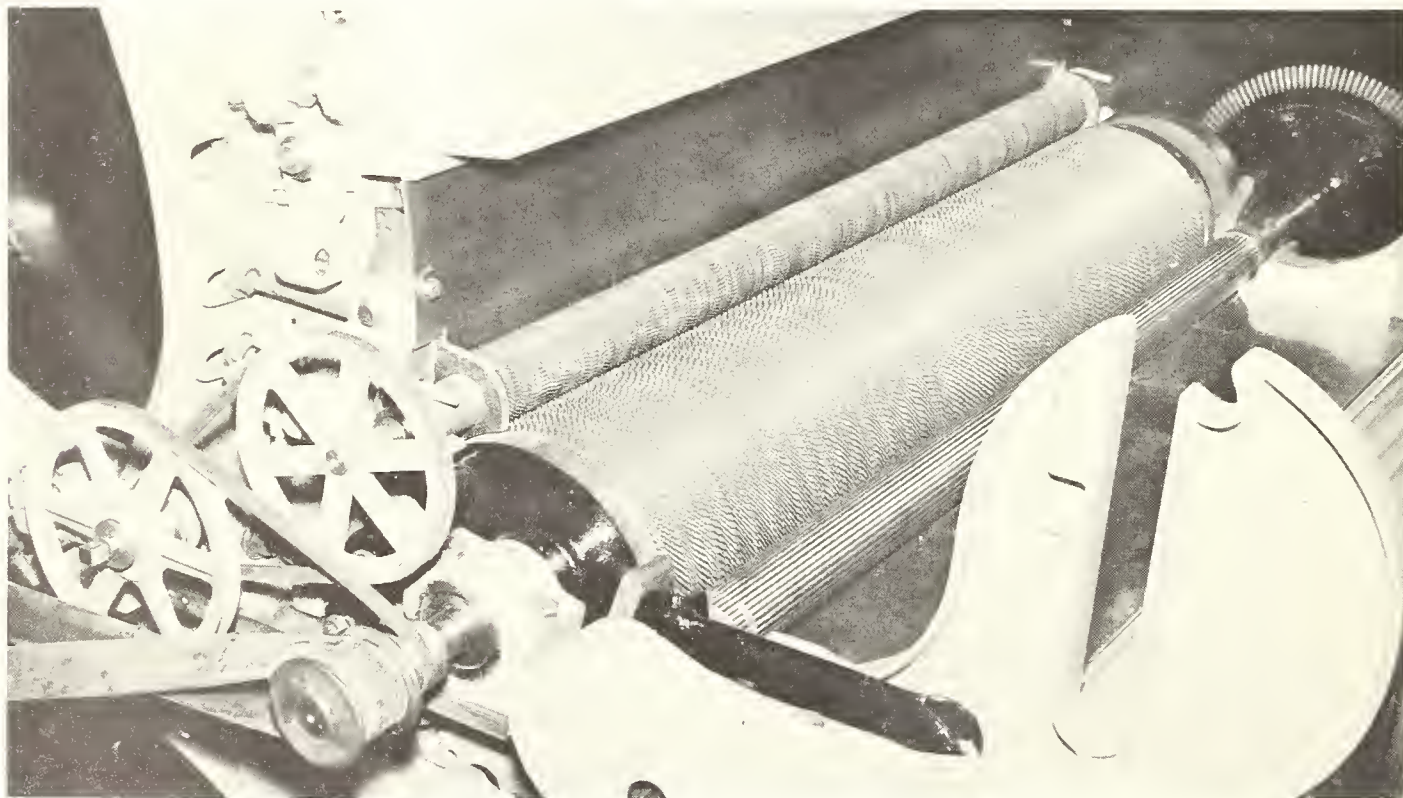
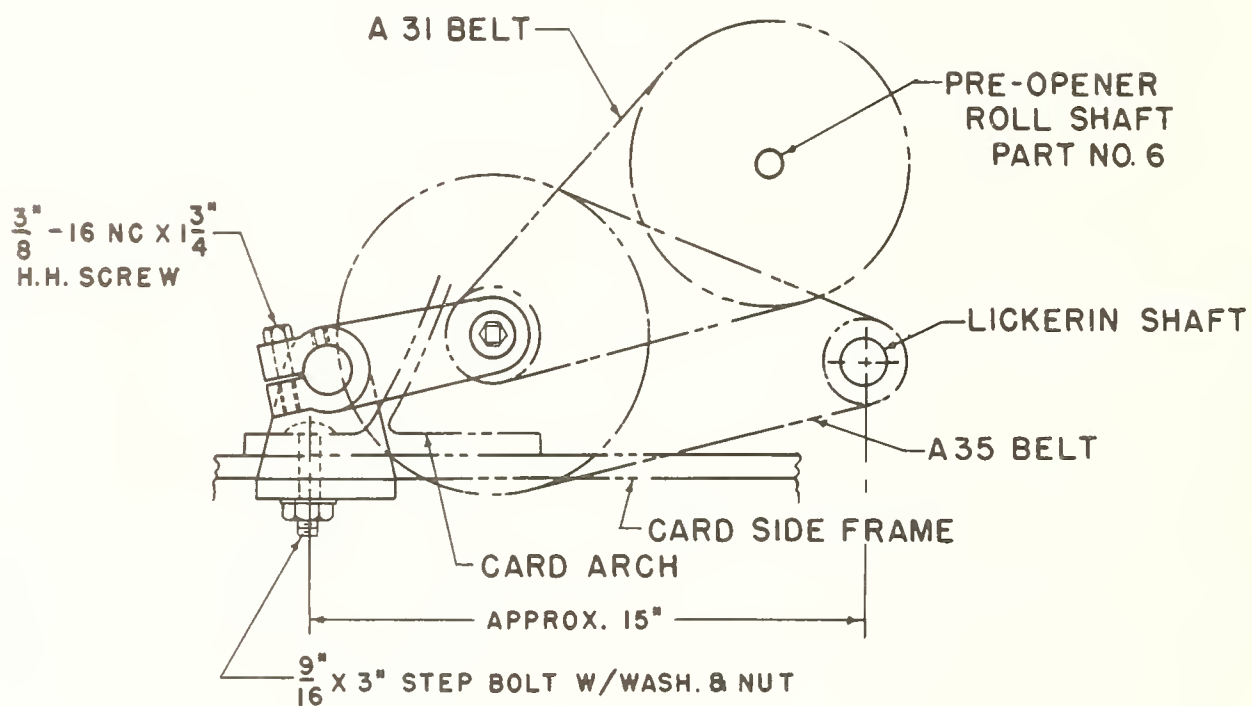
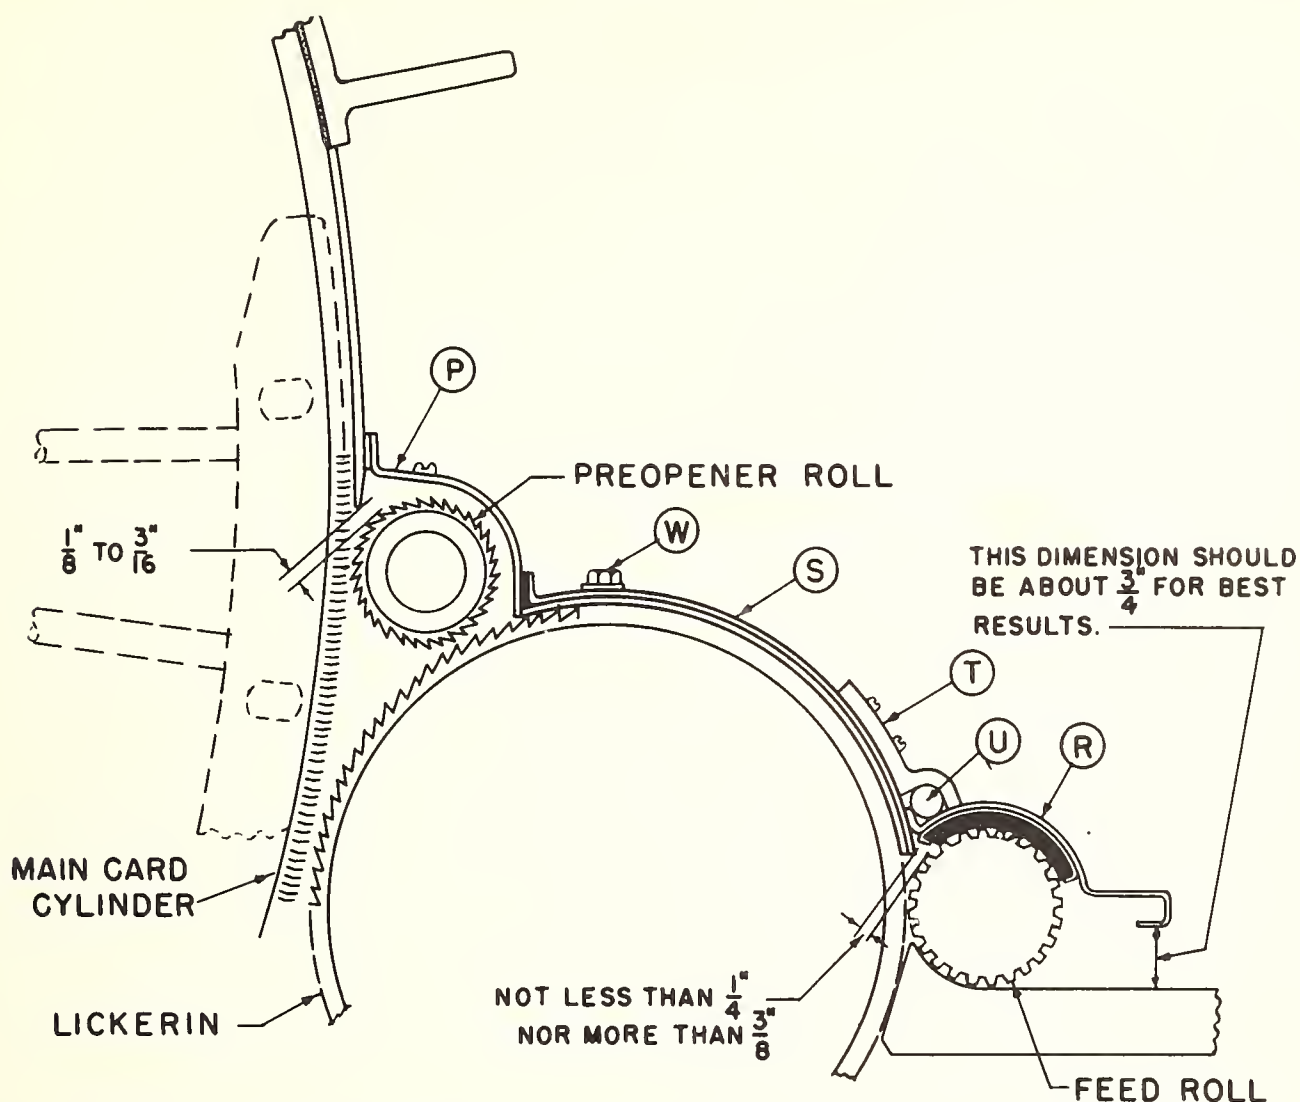

Figure 7. *Pre-opener roll.*
Figure 10. Pre-opener roll drive.
Figure 11. Section of card showing waste-control cover.
The pre-opener roll is shown on the card in Figure 7.
be between 1 8" and 3 16" (Figure 11). The belt drive for the pre-opener roll is shown in Figure 7 and in Figure 10. The installation should be evident from these views.
that the covers fit to the shrouds and to each other sufficiently well to prevent air leaks which will cause fly to accumulate that will eventually be plucked in by the lickerin. Figure 11 shows a section through the lickerin with the cover assembly in place. Cover (P) should